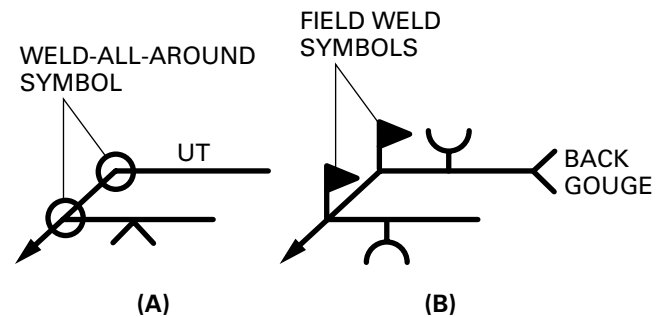

Figure 12 Typical placement of supplemental symbols.
When required, the weld-all-around symbol, shown in Figure 12(A), must be placed at the junction of the arrow line and reference line for each operation to which it applies. The field weld symbol shown in Figure 12(B) may also be used in this manner. Supplemental symbols are discussed in more detail later in this module.